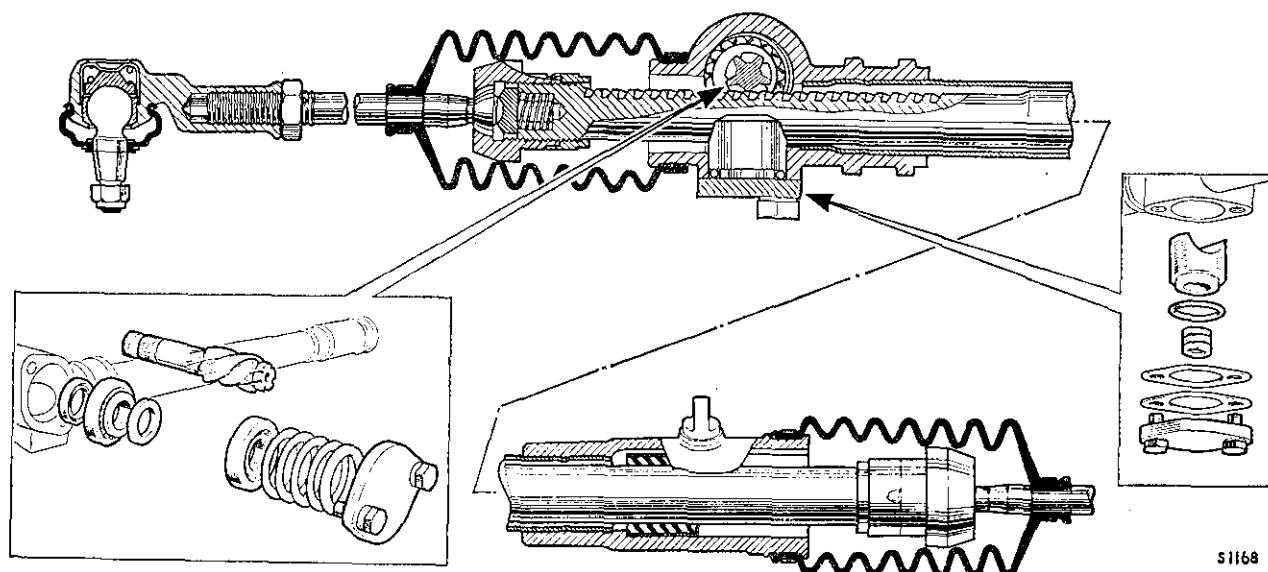

Fig. J.3
- (26) Reverse the dismantling sequence but note: If fitting a new felt bush (early models), soak the bush in E.P. S.A.E. 140 oil.
- (27) The plastic bush may be used as a replacement for the felt bush and is used together with a steel sleeved bush and spacer. Insert the spacer (plain end first) into the rack housing. Fit the plastic bush into the steel sleeve and insert it into the rack housing (plain end first), with the flats on the plastic bush positioned offset to the retaining screw hole in the rack housing. Ensure that the spacer and bush are correctly positioned and drill through the retaining screw hole and the bush with a $\frac{7}{32}$ in. (.27 mm.) drill. Remove all swarf; coat the retaining screw with a jointing compound and refit to secure the bush. Check that the screw does not project into the bore of the plastic bush.
- (28) *Pinion adjustment (early models)*. Refit the cover without the shims, but do not over-tighten the screws. Measure the gap between the cover and the housing. Remove the cover and add shims to the thickness of the measurement minus .002 in. (.05 mm.). Refit the cover with jointing compound.
- (29) *Pinion adjustment (Mk. II models)*. Refit the pinion and bearings as shown in Fig. J.3. Add sufficient shims together with the spacer washer to provide a clearance of approximately .010 in. (.25 mm.) between the rack housing and the cover plate. Fit and lightly tighten the cover plate. Take a feeler gauge measurement of the clearance (A) and reduce the shimming by the measurement taken,